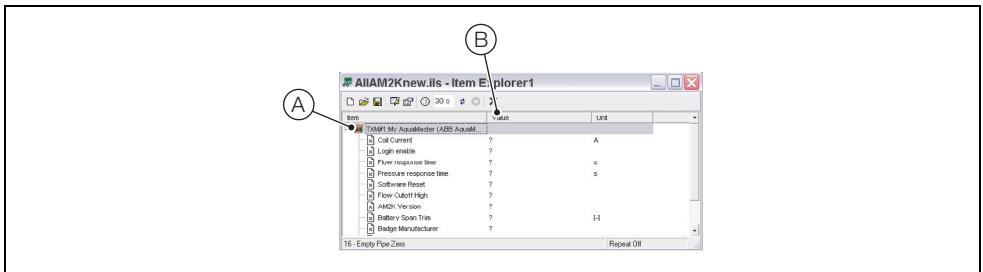

Fig. 6.2 List File
Referring to Fig. 6.2, when the List file is saved, ScrewDriver 7 connects automatically to device (A) and the current value of each parameter in the list below the icon is displayed in value list (B). To refresh the current values, select device (A) and click  or press the keyboard function key F2.